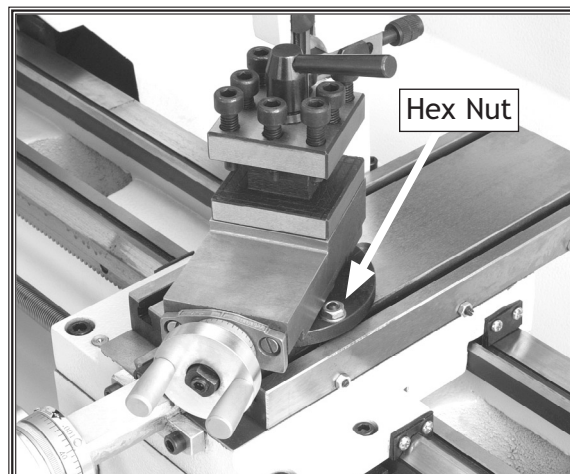

Figure 27. Compound slide, scale, and handwheel.
1. Loosen the hex nuts, one on each side of the compound slide (see **Figure 27**).